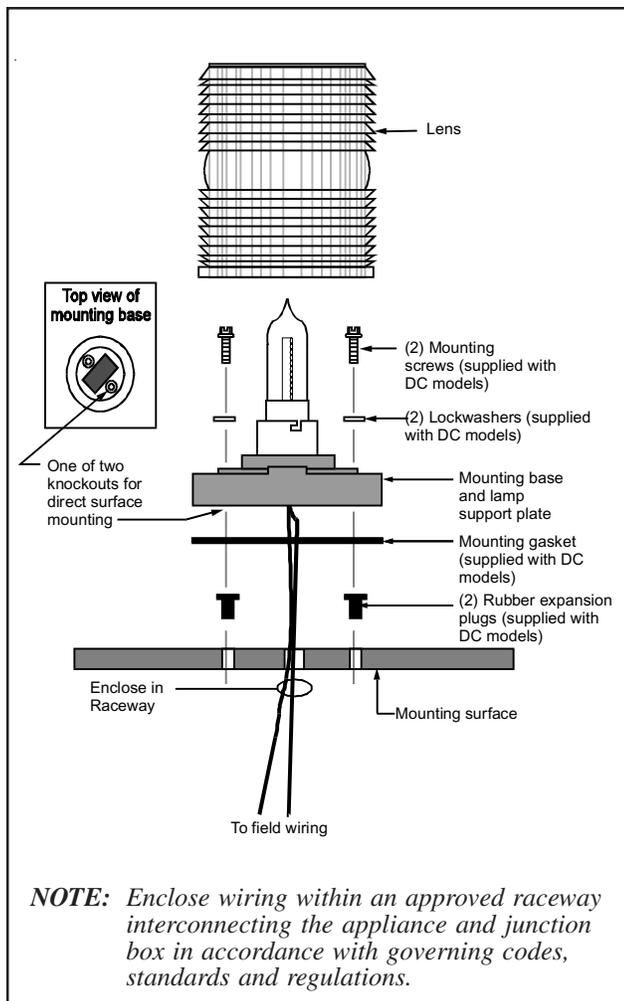

Figure 2. Direct Surface Mounting of the 48 Series Signals
Direct Surface Mounting (Indoor Only) - Figure 2
5. Align the outer holes in the mounting gasket with the holes in the surface. Insert two screws with lockwashers through the two outer holes in the signal base and align the screws with the rubber expansion plugs as shown in Figure 2. Press the signal base firmly against the mounting surface and tighten the screws.